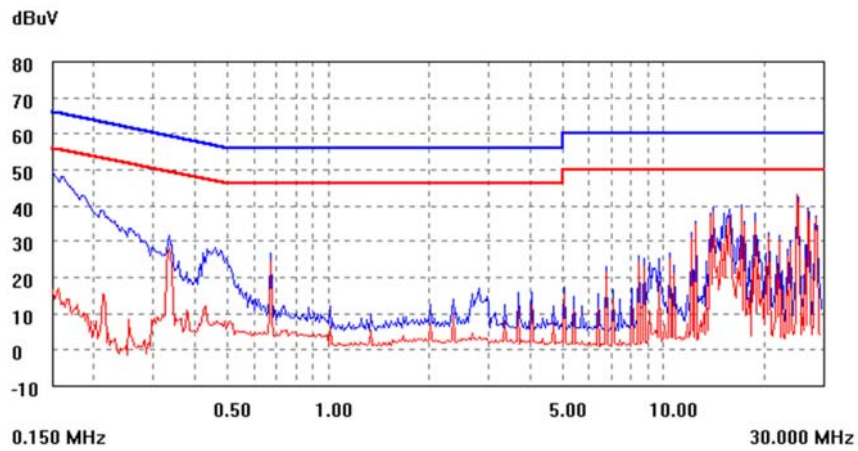

Figure 25. EMC Considerations
The surface mountable modules in the ESTW family use our newest SMT technology called "Column Pin" (CP) connectors. Figure 25 shows the new CP connector before and after reflow
The circuit and plots in Figure 25 shows a suggested configuration to meet the conducted emission limits of EN55022 Class B.